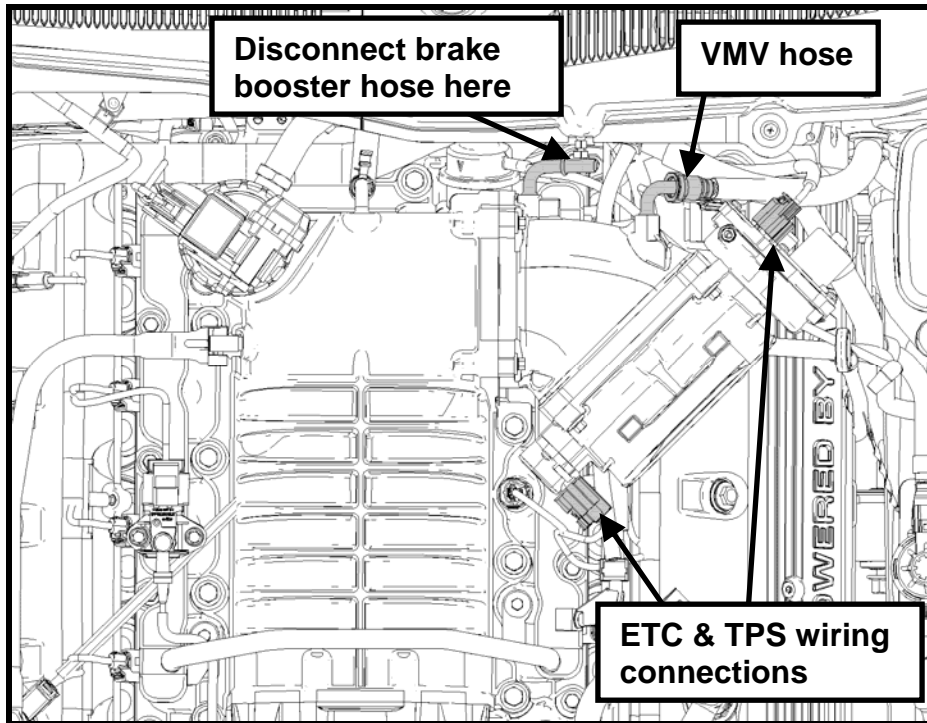
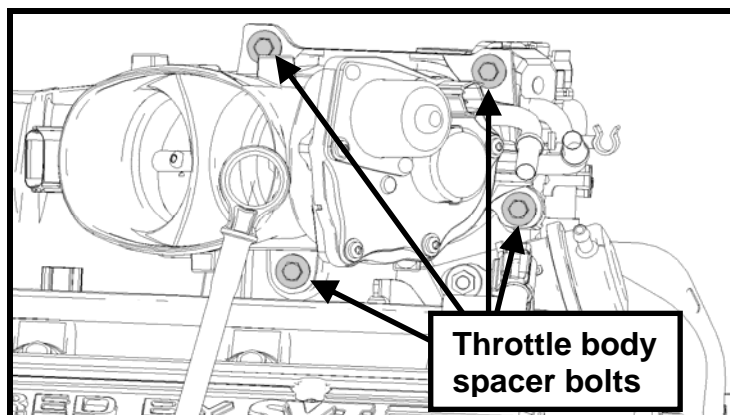

Fig. 7
Fig. 8
**STEP 9:** Disconnect the throttle body wiring in two places (ETC and TPS connections). Disconnect the brake booster and VMV hoses from the throttle body spacer (See Fig. 7). Remove the throttle body spacer (including throttle body) from the supercharger (See Fig. 8).